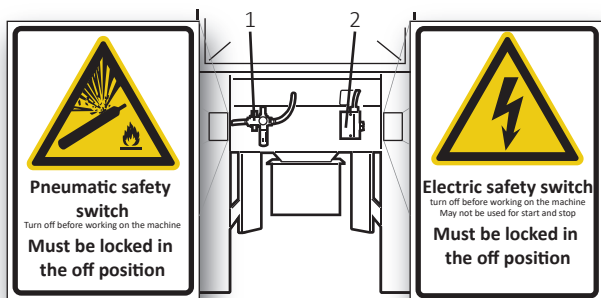

Fig. 4
A lockable safety switch (2), see Fig. 4, is used for infeeding so that safe servicing can be carried out. The electronic automatic control is fed with 230 V 1N~, 6A and must be installed according to the circuit diagram (see chapter 4.5.5).